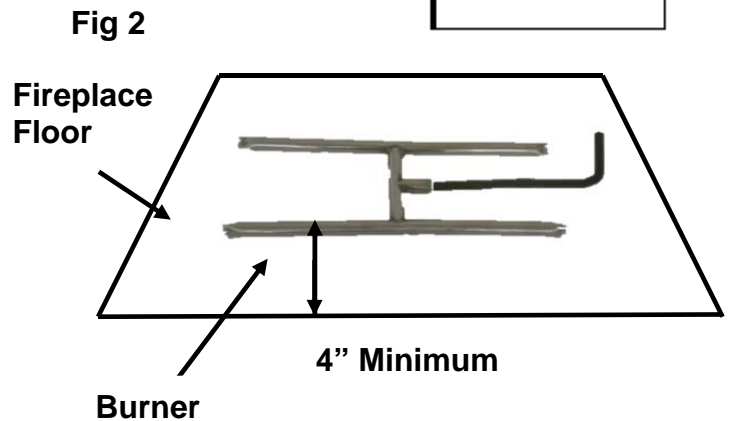

Fig 2
3. Center the **Burner** on the fireplace floor with the burner pipe completely visible from the front. For best results, the Glass H-tube should be directly under the flue opening with a minimum of 4" from the front edge of the Glass H-tube to the fireplace opening. **See Figure 2**